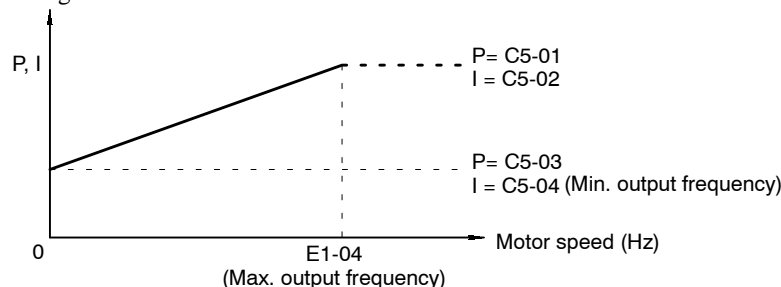

Fig 6.22 Minimum Output Frequency Gain Settings
- Figure 6.22 shows how the proportional gain and integral time are calculated from constants C5-01 through C5-04.